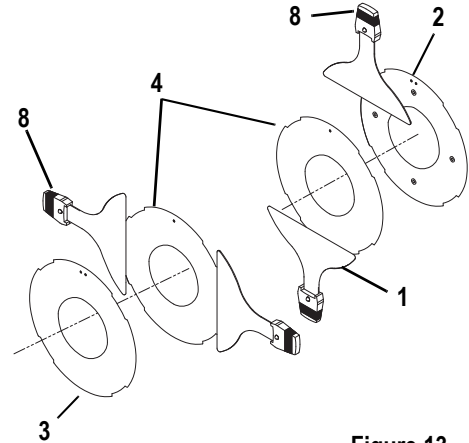

Figure 13
Step 3: With the bottom barrel casting (7) to your left, place two shutter blades (8) on top of dimple plate (2) and opposite each other so together they form a barrier. The handles should extend past the barrel casting, rivets pointed down. These will be the side shutters (See Figure 13).
Step 4: Place a divider plate (4) on top of the two shutter blades.
Step 5: Place another shutter blade on top of the middle divider plates and perpendicular to the previously installed shutter blades. This will be the top shutter, so align the handle away from the bottom casting (7). Then place the other divider plate on top.
Step 7: Place the top divider plate (3) on top of the fourth shutter blade.